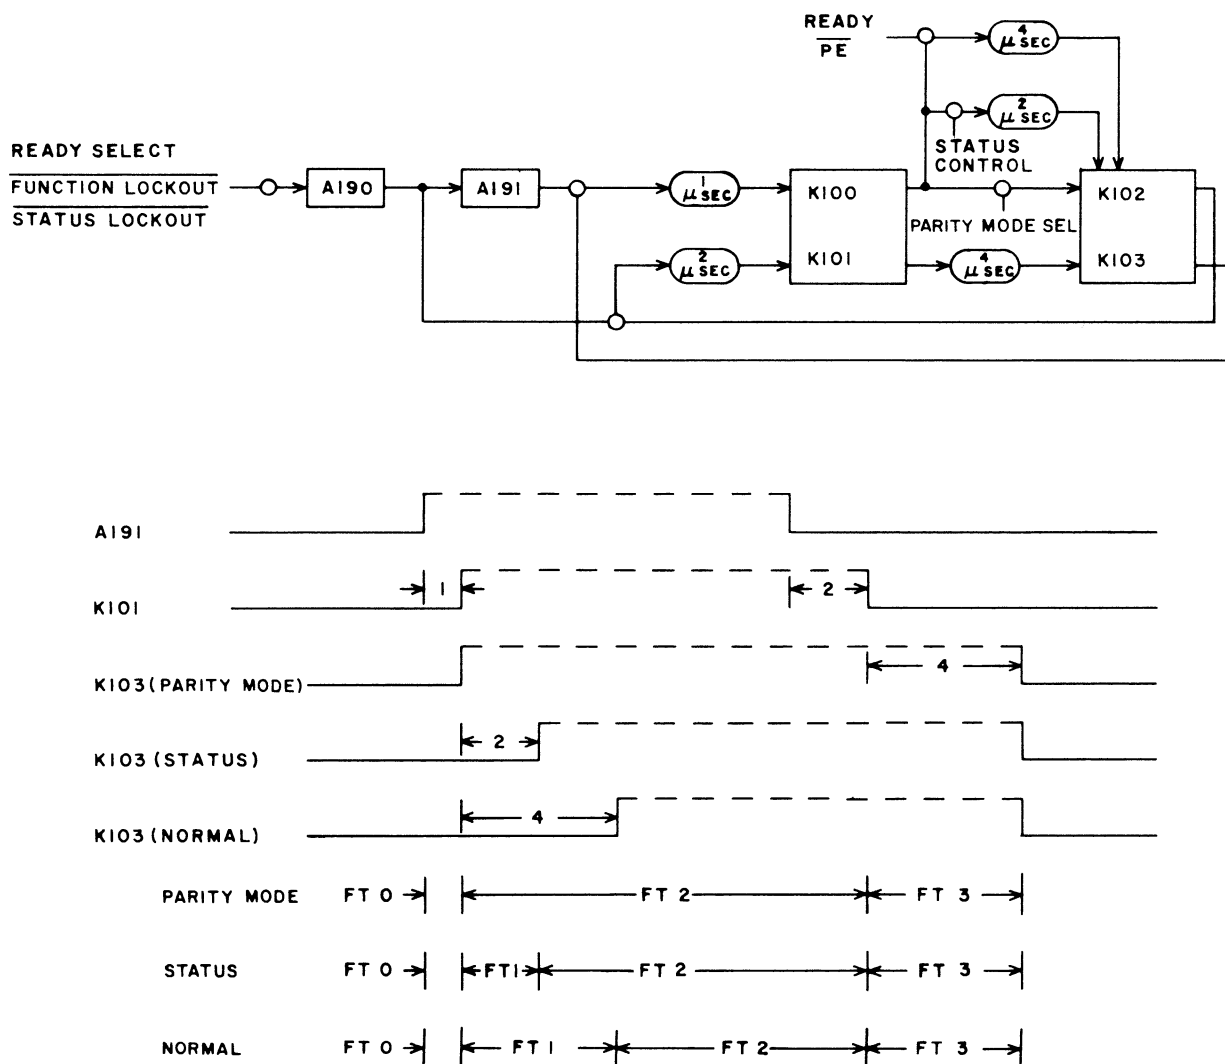

Figure 4-8. Function Timing Chain
The function timing chain (figure 4-8) is triggered by the function ready signal accompanying a 162 selection. The four function times (FT) follow automatically in most selections.